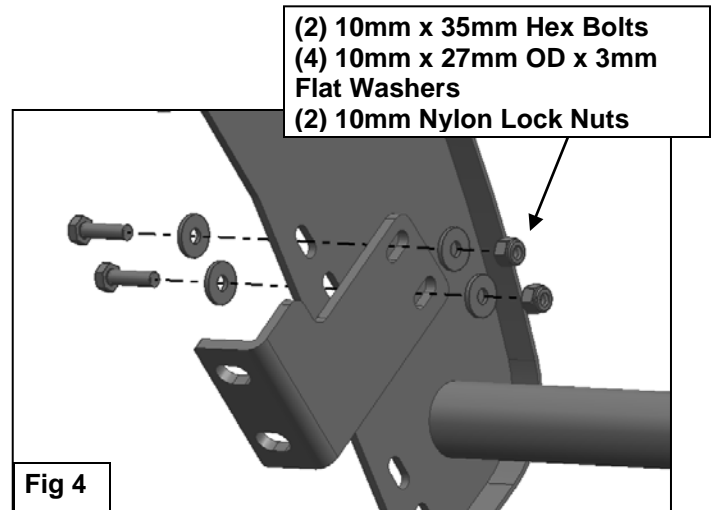

Fig 4
4. Attach the Top Mounting Brackets to the Grille Guard with (2) 10mm x 35mm Hex Bolts, (4) 10mm x 37mm OD x 3mm Flat Washers and (2) 10mm Nylon Lock Nuts **(Figure 4)**.